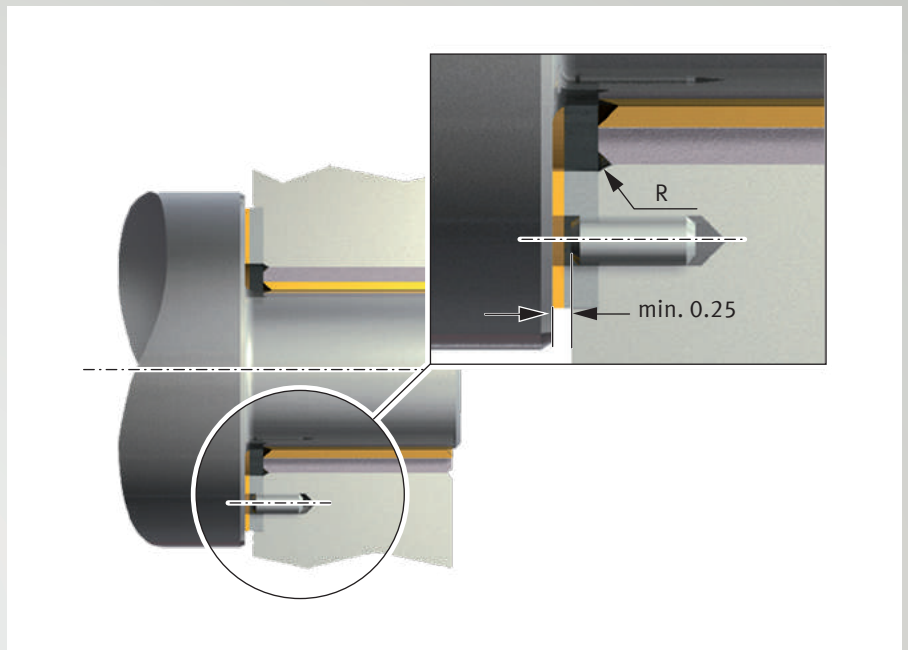

Fig. 41: Attaching a PAW thrust washer in a recess in the housing
- A concentric fit is ensured by the recess in the housing (Fig. 41)
- Unwanted rotation with the shaft is prevented by means of a register pin or countersunk screw (Figs. 41 and 42)
- The screw head or register pin must be recessed by min. 0.25 mm from the sliding surface (Figs. 41 and 42)